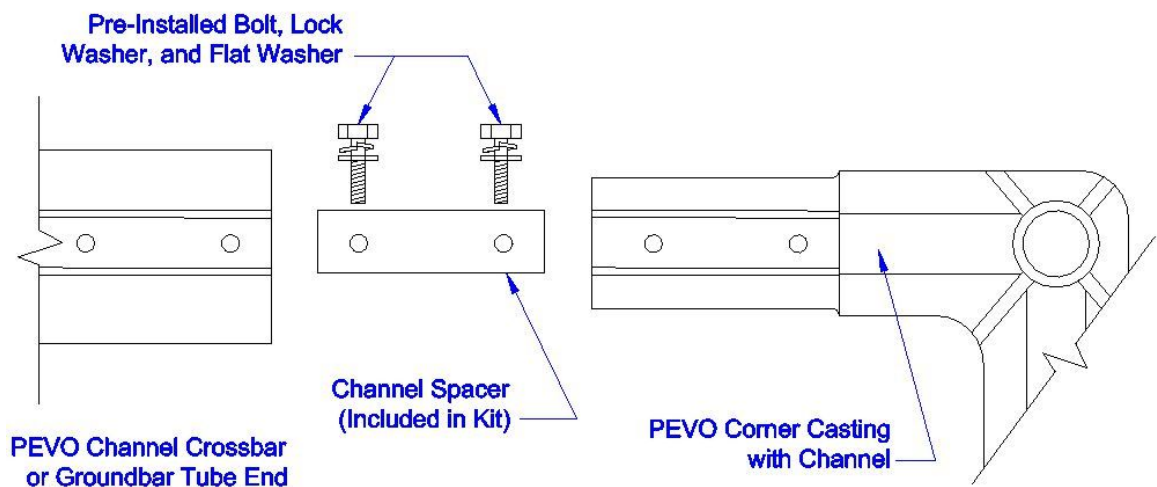

Figure 2. Corner Casting, Crossbar/Groundbar, and Channel Spacer.
7. Align holes in Crossbar with threaded holes in Upright Stub. Install Lock Washer and Flat Washer on Hex Bolts and insert through Crossbar Holes and Channel Spacer into threaded holes in Upright. (See Figure 2) Use **finger pressure** to turn Bolt in threaded holes to ensure proper threading occurs. Tighten bolts with wrench until snug.